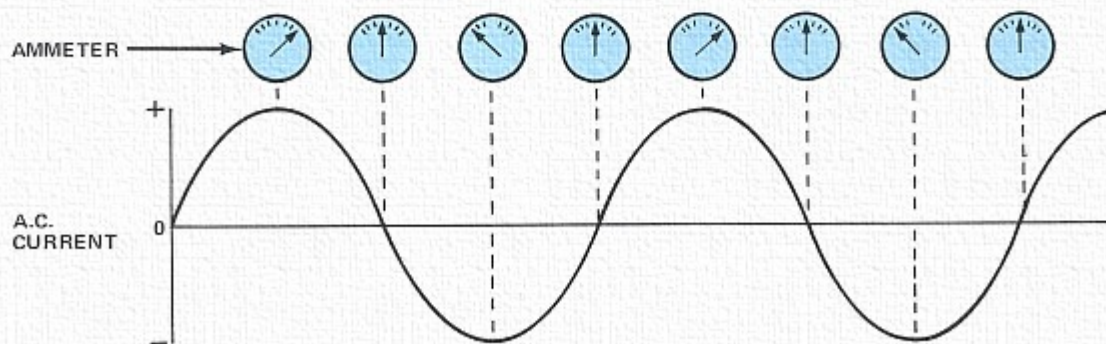

Fig. 23 Alternating Current Wave Form
A.C. generator output can be illustrated as a wave form (Fig. 23) corresponding to the movement of an ammeter needle as current increases and decreases in one direction, and then increases and decreases in the opposite direction when the A.C. generator's magnetic field is reversed.